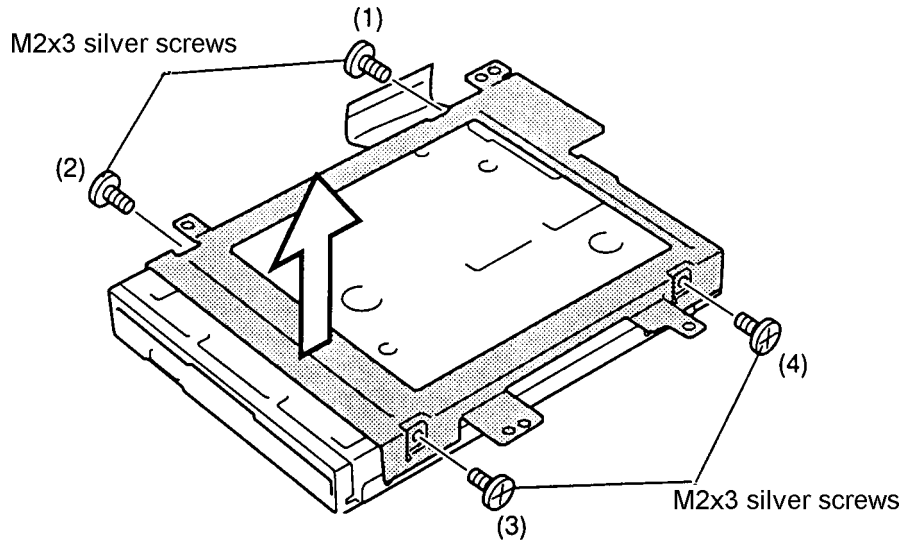

Figure 4-18 Removing the HDD
5. Remove **four M2x3 silver screws** securing the bracket to the FDD and slip off the bracket (figure 4-18).
1. Secure the bracket with **four M2x3 silver screws** in the numbered order: 1 to 4 (figure 4-18). Tighten screws 1 to 4 to a torque of less than 2.2 kgfcm.